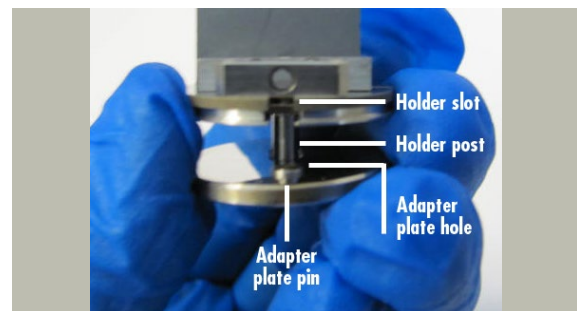

Figure 6. Insert the holder into the adapter plate.
3. Insert the cross-section holder into the adapter plate (Figure 6).